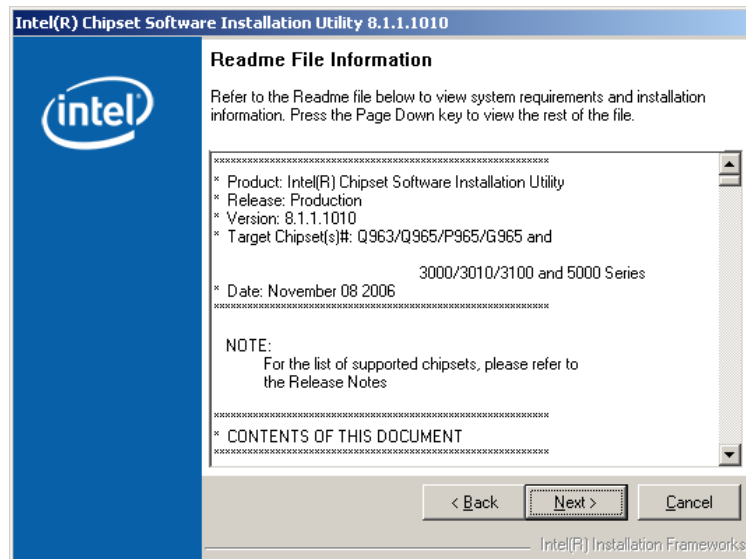

Figure 7-6: Chipset Driver Readme File Information
Step 8: The Readme file in **Figure 7-6** appears.